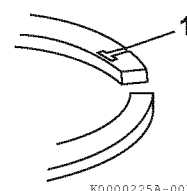

Figure 6-84
Install the top and second piston rings with the stamped “makers mark” (**Figure 6-84, (1)**) facing the top of the piston. The “makers mark” may vary in appearance but will always be located on the top surface of the piston ring adjacent to the piston ring gap. The oil ring and oil ring expander can be installed either side up.